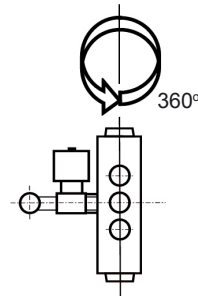

Fig. 2a
- b. in vertical position, the valves can be installed in any orientation as long as the coil stem position is up (Fig. 2a).